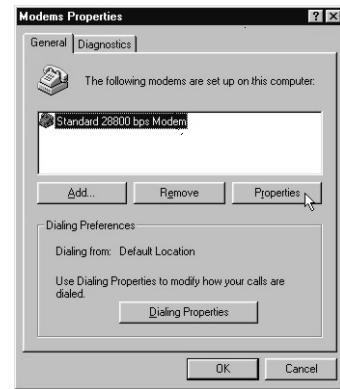

Figure 10 - Modems Properties
8. From the “Modems Properties” window select the “Standard 28800 bps Modem” that was installed. Click on PROPERTIES. (Fig. 10)